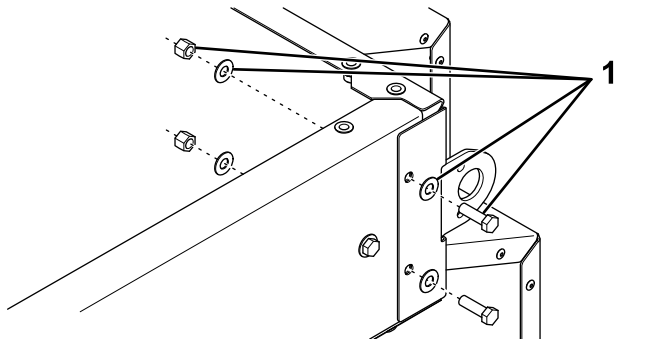

Figure 1
2. Remove and discard the hardware on each of the hopper corner plates (Figure 1).